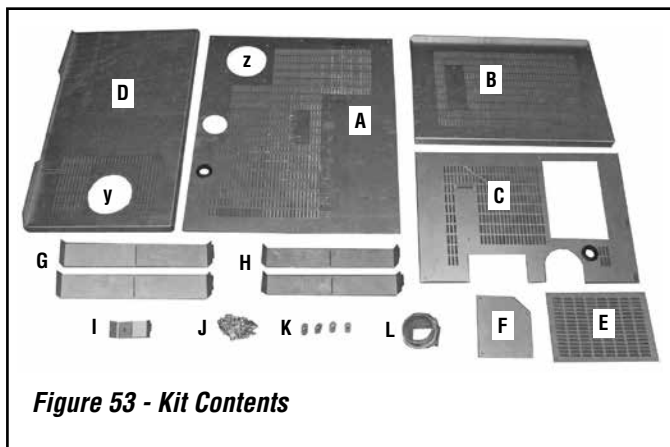

Figure 53 - Kit Contents
(refer to **Figure 53**)
NOTE: Top or rear vent? If you will be venting out the top then you will install the block off plate (F in **Figure 53**) onto the lower back panel (A) in the spot that is marked "z" in **Figure 53**. If you are venting out the back you will install the block off plate (F) onto the top panel (D) in the spot that is marked "y" in **Figure 53**. You will use four of the sheet metal screws provided to attach the block off plate (F).